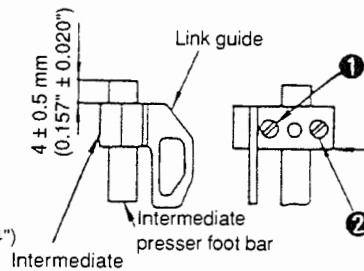

Fig. 5-19-4
- 3) The bottom face of the link guide is flush with the bottom face of the intermediate presser foot bracket. (Fig. 5-19-4)
- 4) The intermediate presser foot bar projects  $4 \pm 0.5$  mm ( $0.157'' \pm 0.020''$ ) from the top end of the intermediate presser foot bracket. (Fig. 5-19-4)
- 3 ) Loosen setscrew ① and ②, and adjust so that the bottom face of the link guide becomes flush with the bottom face of the intermediate presser foot bracket. Tighten setscrew ②. (Fig. 5-19-4)
- 4 ), 7) Further adjust so that the intermediate presser foot bar protrudes  $4 \pm 0.5$  mm ( $0.157" \pm 0.020"$ ) from the top edge of the intermediate presser foot bracket and also the needle point enters the center of the hole in the intermediate presser foot. After adjustment, tighten setscrew ①. (Figs. 5-19-4, 5-19-5)